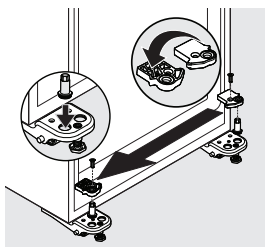

Figure 3
9. Using a T20 Torx Head screwdriver, remove the door stopper screw, and remove door stopper (see Figure 3).
10. Using a 5/16 in. socket, unscrew the bottom hinge pin (see Figure 3).
11. Reinstall the bottom hinge pin in the left side hole on the left side hinge (see Figure 3).
12. Flip the door stopper. Reinstall the door stopper on top of the bottom hinge with the screw (see Figure 3).